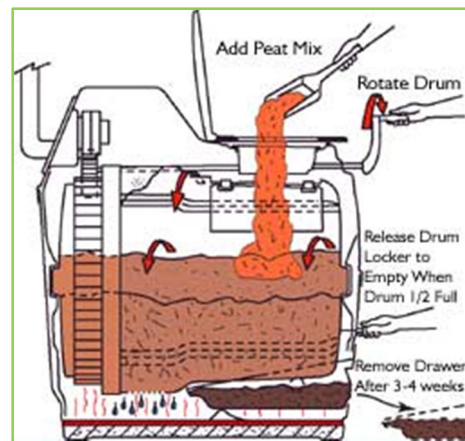

Figure 13. Use and maintenance of a compost toilet. Image courtesy of Sun-Mar.
3. Removing Compost (pictured in Figure 13)